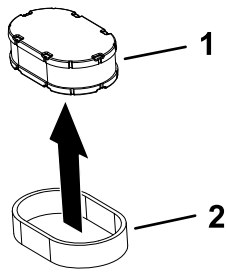

Figure 39
- Separate the foam and paper elements (Figure 39).